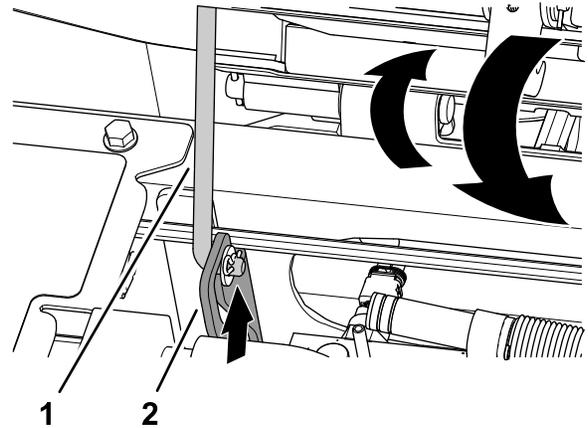

Figure 66
1. Rotate the seat slightly, and lift the prop rod out of the dent of the seat support slot (Figure 66).